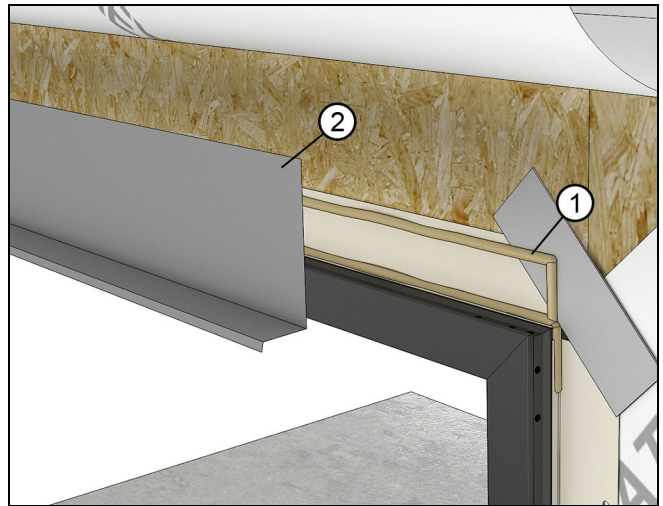

Figure 62
4. Install a rigid head flash. Apply sealant to all surfaces that will come in contact with the flashing. Flashing should extend past the window frame by at least 1/8" (3) on each side. See Figure 62.